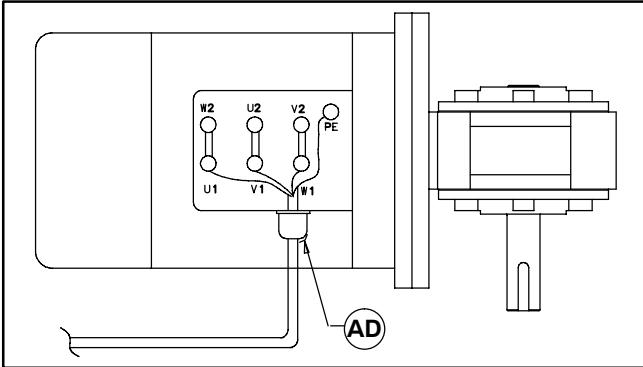

Figure 24
- b. Record wire colors on terminals U1, V1, W1 & PE (Figure 24). Loosen terminals U1, V1, W1 & PE and remove wires.
- c. Loosen cord grip (AD of Figure 24) and remove cord.